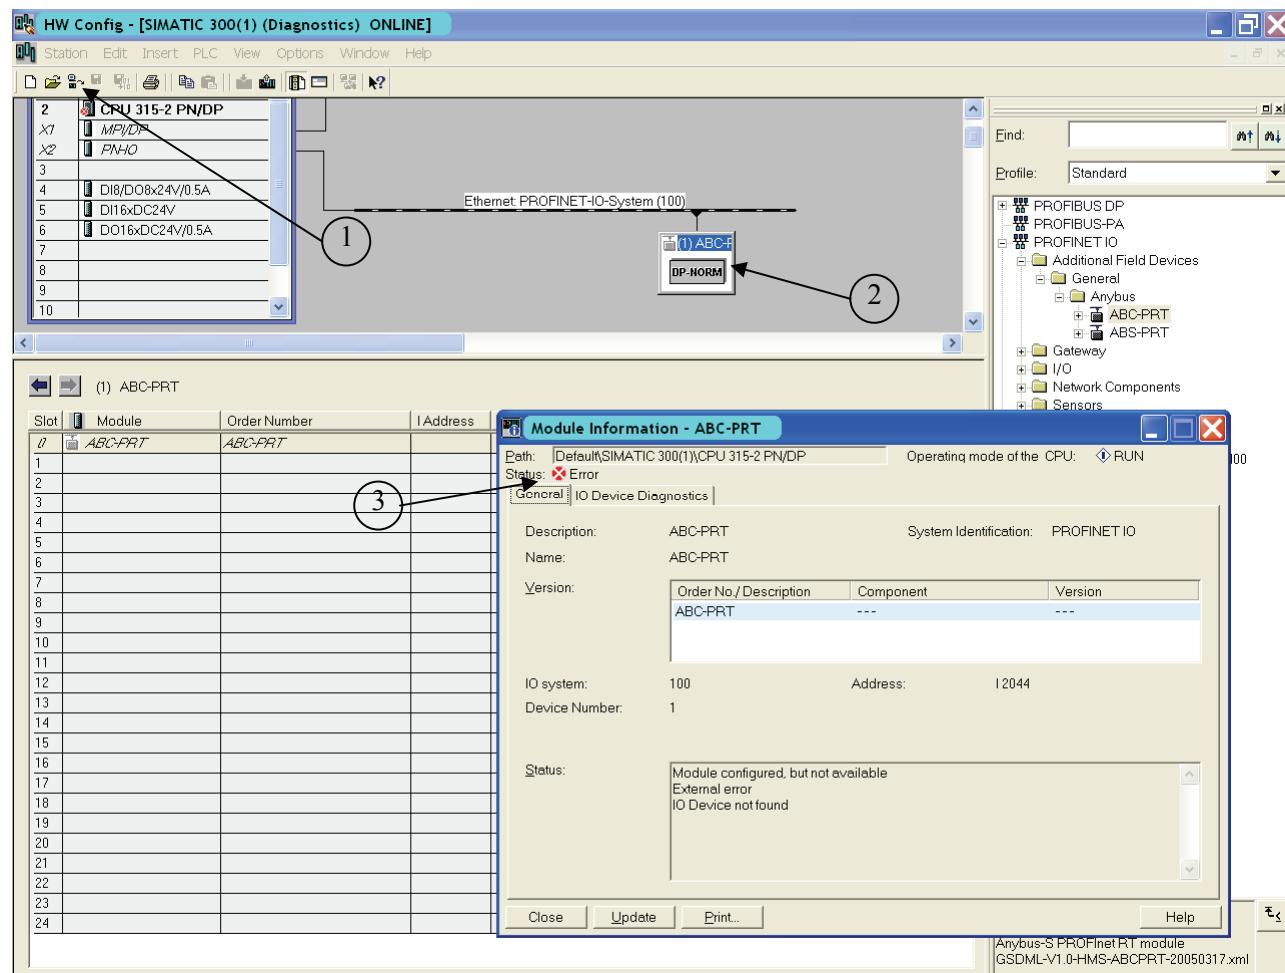

Figure 30 Step7 Hardware diagnostics.
Step7 and the HW Config program provide diagnostic possibilities via the PROFINET IO Controller over the network. Start with going online by clicking on the button ① in Figure 30. Then right-click on ② and chose “Module Information” and the diagnostic function will be started. The window ③ will be displayed and available diagnostics can be read out.